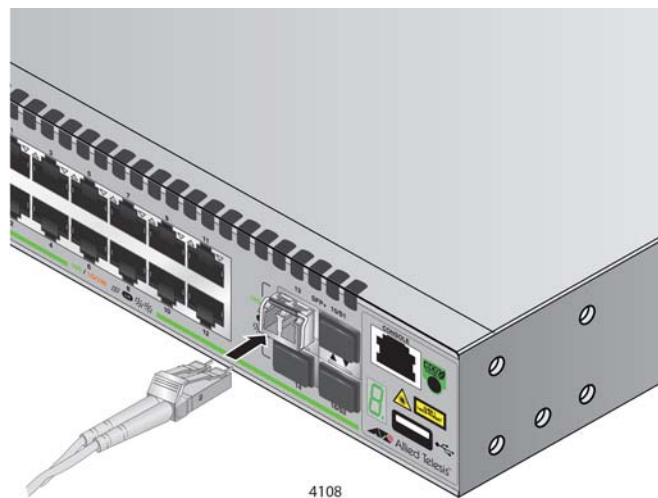

Figure 71. Connecting a Fiber Optic Cable to an SFP Transceiver
7. Connect the fiber optic cable to the transceiver. Refer to Figure 71.